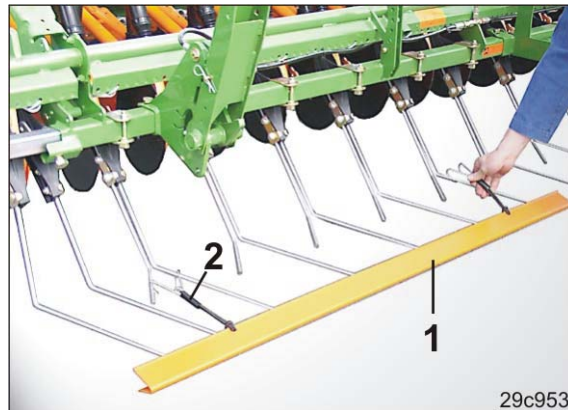

Fig. 209
1. Push the multi-part transport safety bar (Fig. 209/1) over the tine tips of the exact following harrow.
2. Fasten the transport safety bar to the exact following harrow with spring holders (Fig. 209/2).